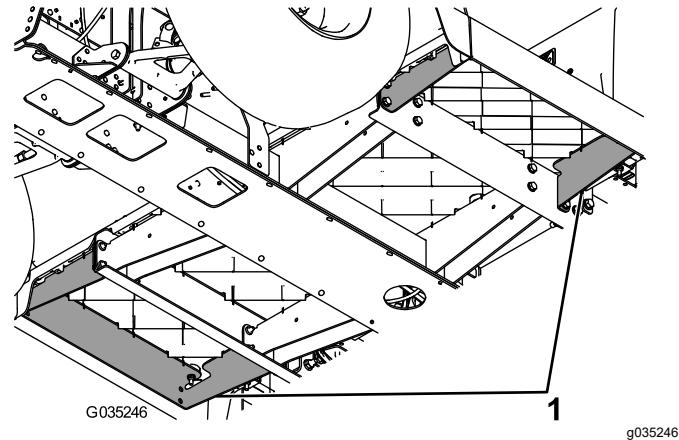

Figure 4
3. Remove 1 of the existing floor-plate supports (Figure 4).
5. Remove the other existing floor-plate support (Figure 4).